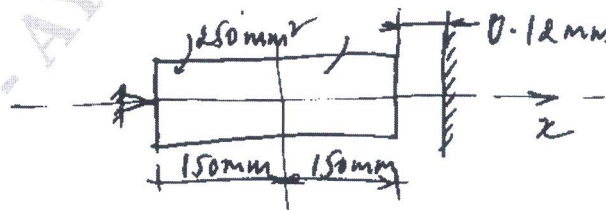

Fig.Q4(b)
- b. A bar is loaded as shown in Fig.Q4(b) $E = 200 \text{ GPa}$ by using elimination method of boundary condition find : i) nodal displacement ii) reaction at the support iii) stress in each element. (08 Marks)